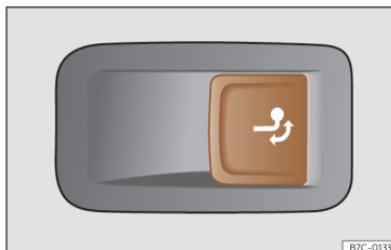

Fig. 176 Right side of the luggage compartment: button to unlock the tow hitch.
- Pull the **>>> Fig. 176** button briefly. The tow hook unlocks electrically and automatically turns outwards. The button's control lamp flashes.
- Pull the **>>> Fig. 176** button briefly. The tow hook unlocks electrically.
- Never press the button **>>> Fig. 176** when there is a trailer hooked to the vehicle or when a carrier system or other accessories are mounted on the tow hook.
① NOTICE